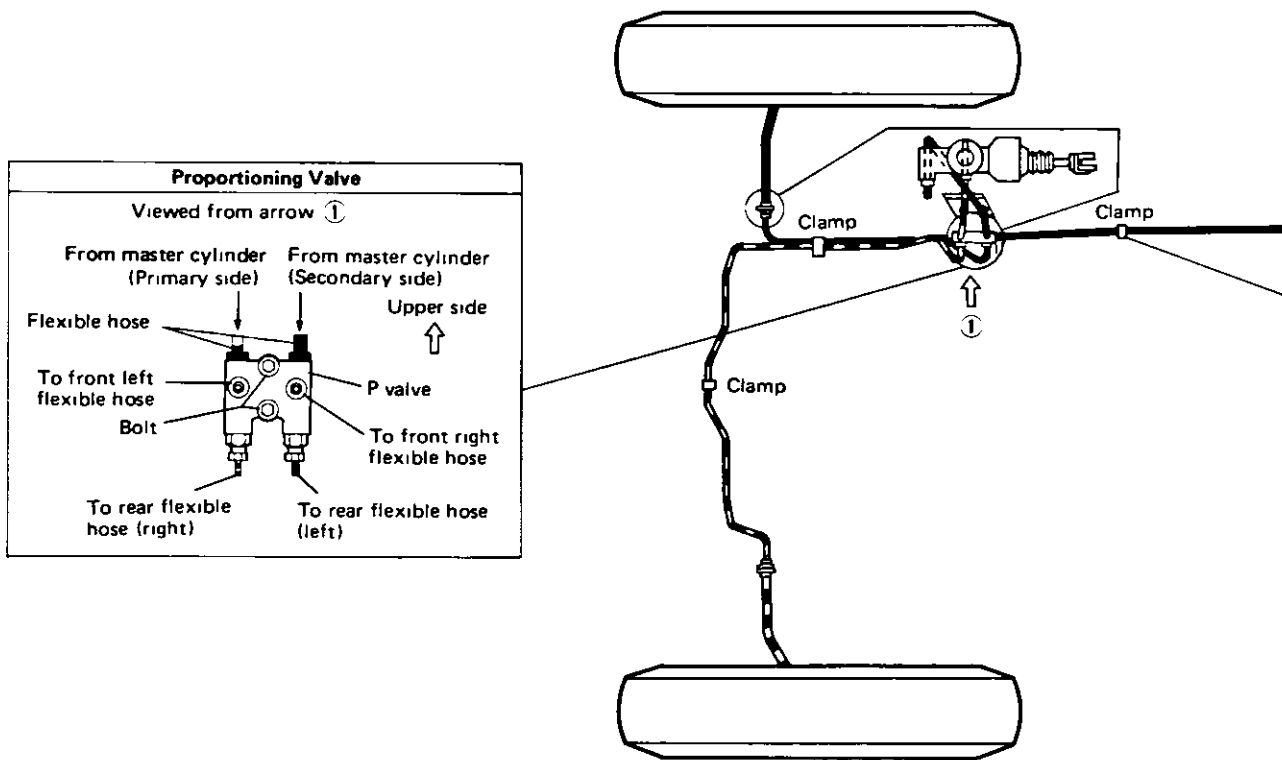

Fig. 19-7-1
- Be sure to install brake pipe in proper position referring to Fig. 19-7-1 through Fig. 19-7-5 and clamp it securely and correctly.
The brake circuit in Fig. 19-7-1 and Fig. 19-7-2 is applicable to canvas top and van type model cars whose brake piping is diagonal split type as described in Fig. 19-1.